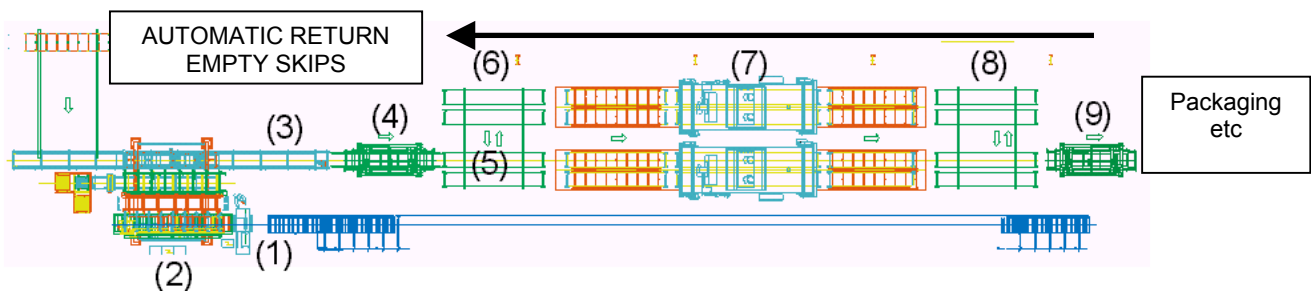

Fig. 3: Modern skip handling system in the extrusion plant:
TECALEX has developed a skip handling system (see fig. 3) which **works automatically (no-man-operation) and moves the skips in a smooth way, so no accidents or damage of the profile will occur:**
The heart of the system is the skip stacker (see fig. 3 - pos. 4) stacking automatically 3 skips one over the other. A lateral platform (pos. 6) distributes the skips to the furnaces. After ageing, another platform (pos. 8) moves the skips to the de-stacker (pos. 9) where it will be de-stacked.